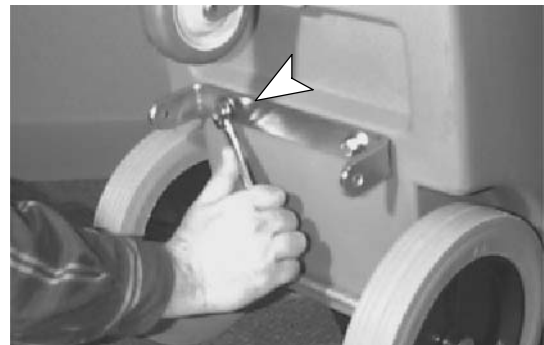

FIG. 2
4. Remove (2) bolts and washers located at bottom of machine.
5. Install squeegee mounting bracket with bolts and washers (Figure 2).